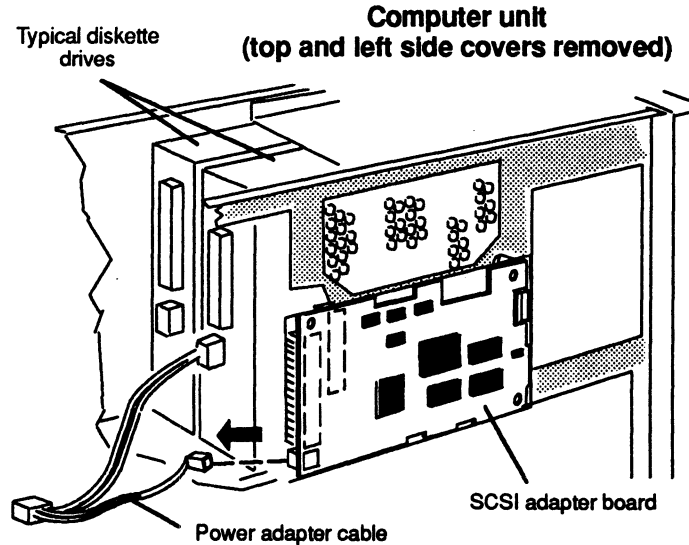

Figure 6-15 Unplugging the Power Adapter Cable from the SCSI Adapter Board
2. Unplug the power adapter cable from the SCSI adapter board as shown in Figure 6-15.